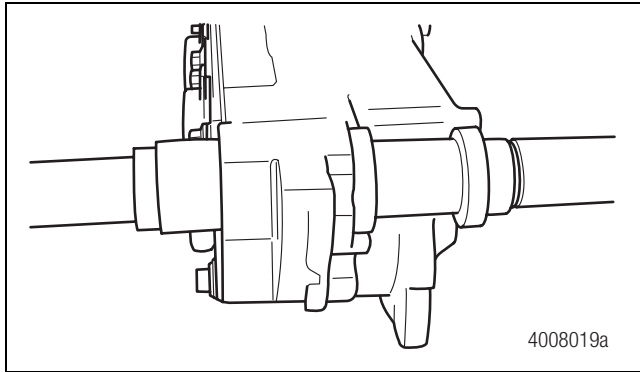

Figure 5.38
- Place a suitable driver from Meritor tool MST 1000 onto the bushing and install the bushing into the housing bore. Figure 5.38.